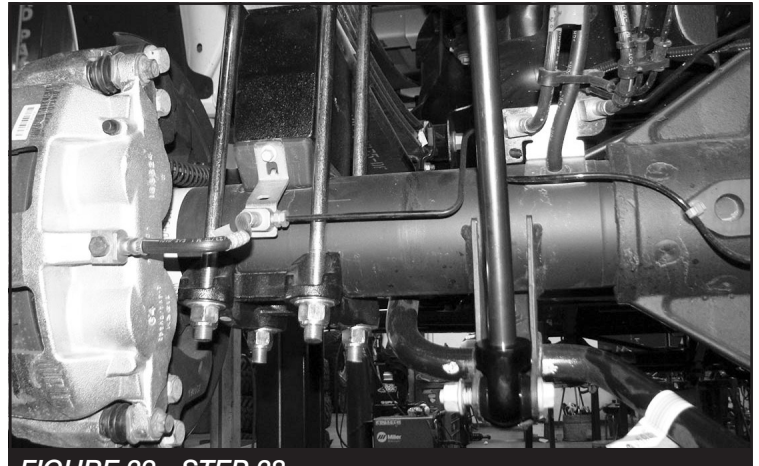

FIGURE 32 - STEP 38
38. Install the new rear shocks FTS7266, FTS6063 or DL FTS810052 using the factory hardware, torque to 90 ft-lbs. **SEE FIGURE 32**